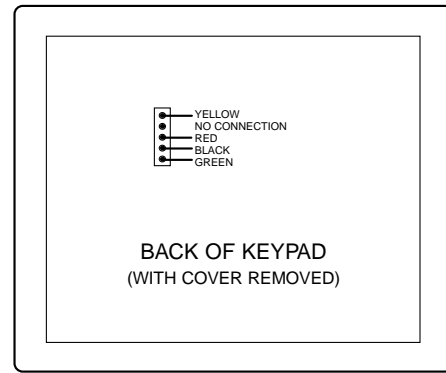

Figure 2: FA210RF Wiring Connections
4. **Plug the supplied connector** with the flying leads into the FA210RF's PC board and splice the panel wiring to it. (See *Figure 2* for wiring connections).